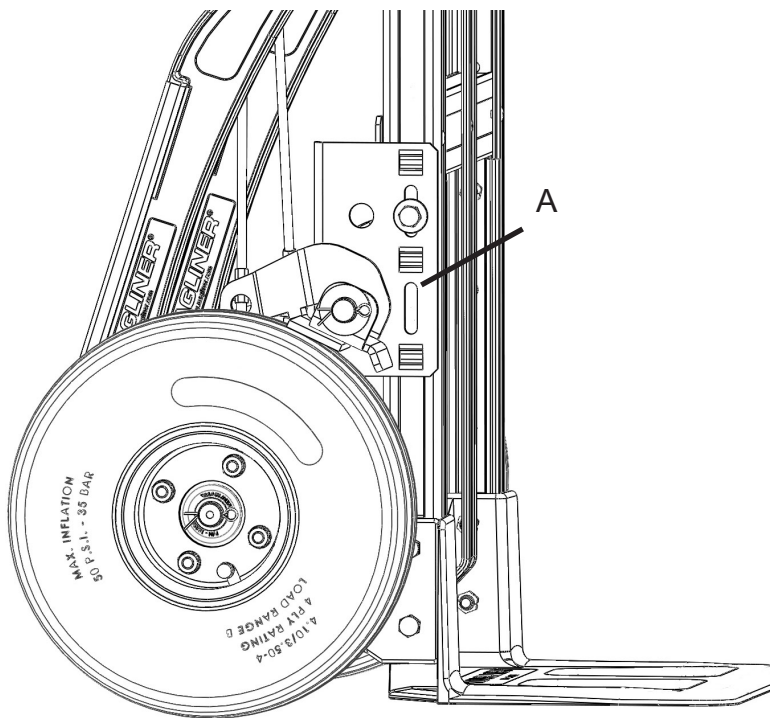

Figure 2
2. Position each of the bottom mounting brackets (A) as illustrated in Figure 2. Fasten with the 5/16" x 1 1/2" long hex head cap screw (B) and one 5/16" washer (C) on the outside through the uppermost slot. Secure with the 5/16" locknut (D) on the inside. (Note: Do not fully tighten until the final brake adjustment is done.)
3. Slide the pivot shaft (E) through each of the lower holes provided in the mounting brackets and install a 5/8" washer (F) on each end.
5. Install a second 5/8" washer (F) on each end of the pivot shaft and secure the assembly by inserting a cotter pin (I) in the holes provided at both ends of the shaft. Bend the ends of each of the cotter pins (I) using the needle nose pliers to hold it in place.
3. Loosen the hex head screws that hold the bottom mounting brackets on each side of the frame using two 1/2" wrenches. Slide the brackets down such that the brake paddles are resting on the wheels (bottom mounting brackets are shown on page 3, Figure 2).